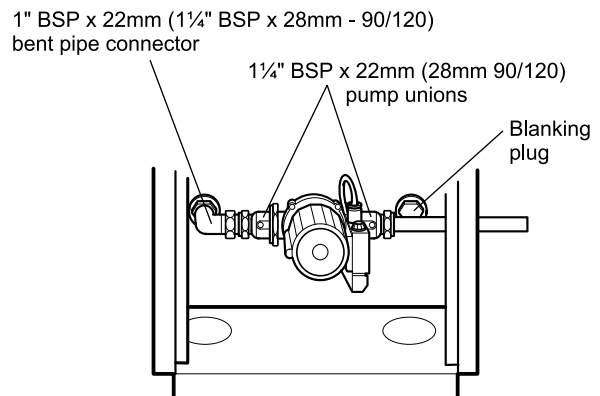

Fig. 15a - Rear of boiler
- 7 Connect the pump to one of the bottom tappings (as required) on the back of the boiler using the two pump unions and the other bent pipe connector supplied. Seal the other return tapping with the blanking plug supplied with the boiler. See Fig. 15a.
See Figs 15a, 15b, and 15c
- 9 If required, fit the circulating pump to one of the four tappings on the back of the boiler (see Fig. 14a). Two 1/4" x 28 mm pump unions, two 1" BSP bushes and two 1" BSP x 28 mm elbows are supplied. Seal any unused tappings with the 1/4" BSP plugs supplied (see Fig. 15a).